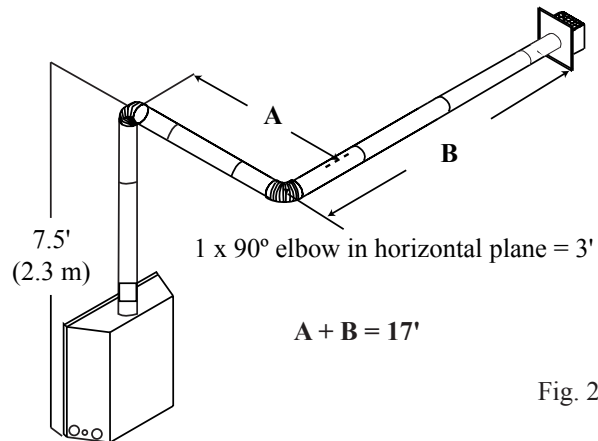
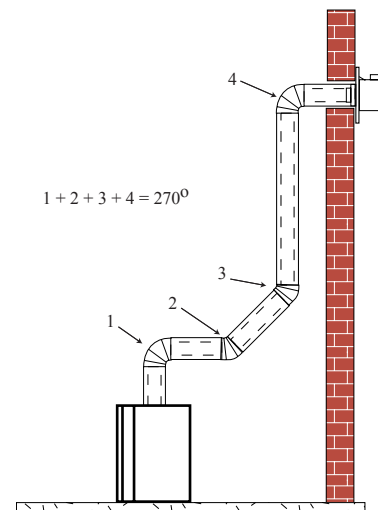

Fig. 22
Fig. 23
- If a 90° elbow is used in the horizontal vent run (level height maintained) the maximum horizontal vent length is reduced by 36" (914 mm), (Fig. 22). This does not apply if the 90° elbows are used to increase or redirect a vertical rise (Fig. 23).
In Fig. 22 Dimension A plus B must not be greater than 17' (5.2 m).
- The maximum number of 45° elbows permitted per side wall installation is two (2). These elbows can be installed in either the vertical or horizontal run.
- The maximum number of elbow degrees in a system is 270° (See Fig. 23).
Example: In Figure 23